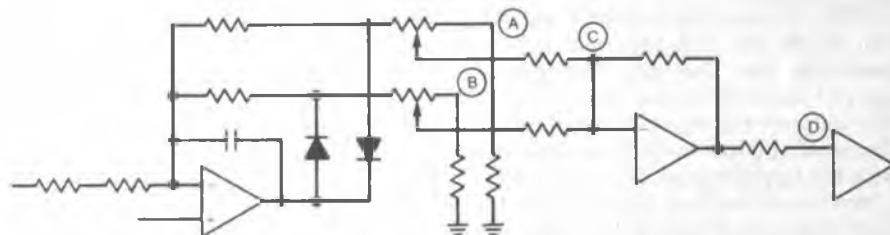
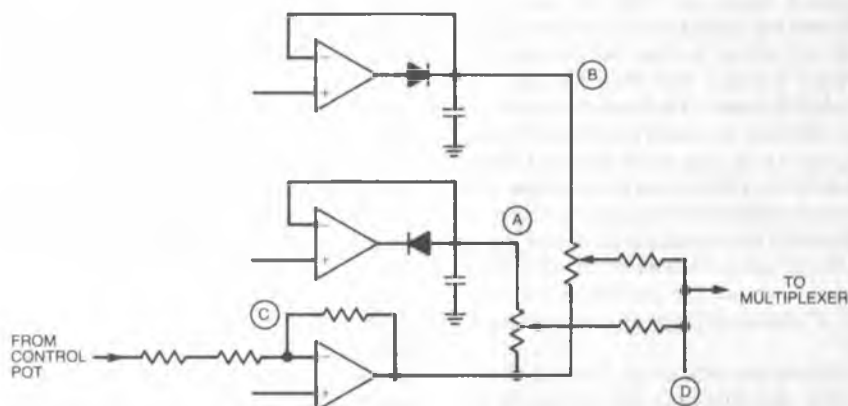
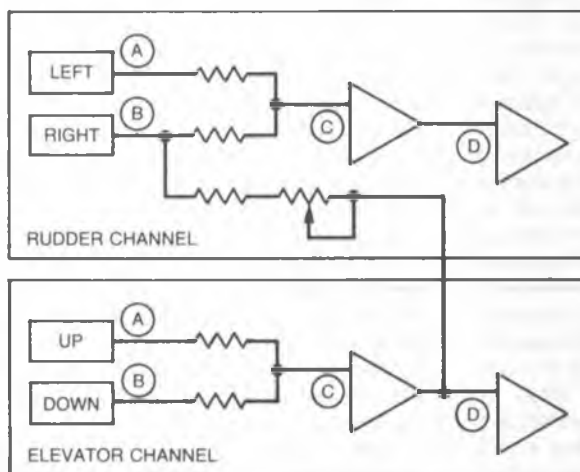

FIGURE 1
FIGURE 2
FIGURE 3
The second assumption is that you have a transmitter with end point adjustment such as the Futaba J series or JR Unlimited series. In them you will find circuits that isolate the voltages developed from right vs. left and up vs. down commands. A typical circuit in the JR looks like Fig. 1, with Fig. 2 representing the Futaba. The points in these circuits that you must connect to are designated in the figures. The points marked (A) will be one polarity with (B) being the opposite. That is: The voltage on point (A) will vary when you move the stick one way and the voltage on (B) will change when the stick is moved in the other. Down stream in each channel in the JR you will find two OP amps. If you feed a given polarity into the first you will drive the output one direction. If your slave servo moves in the wrong direction, feed the input into the other OP amp. The inputs are marked with a (C) and (D). The inputs in the Futaba are also marked (C) and (D). All we need to do is connect a series resistor and POT from point (A) or (B) in the master channel into either (C) or (D) in the slave channel and every channel can be master or slave or both. The block diagram of Fig. 3 might help visualize what we are doing. This is just an example, you may want a different combination. Unfortunately, even if you had board layouts it is really not an easy task to make these mods so I don't recommend you try it unless you really know what you are doing.